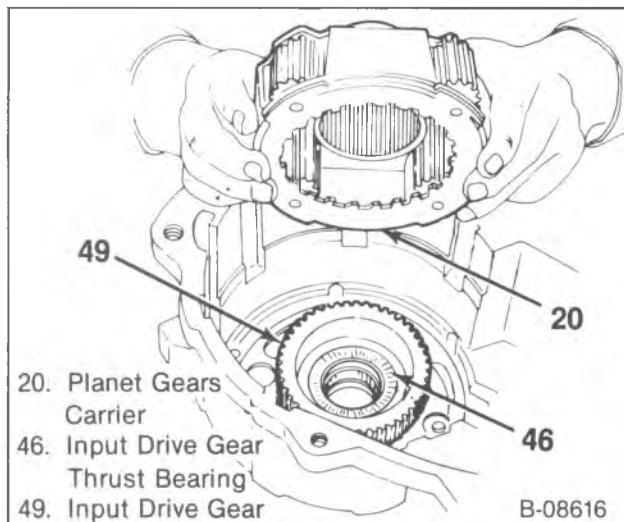

Figure 13—Input Gear, Mainshaft Thrust Bearing, and Planetary Gear Installation
- Planetary assembly (20) over the input gear (49). Be sure the planetary is fully seated and meshed with the gear (figure 13).
- Planetary thrust washer (21) on the planetary hub (20).